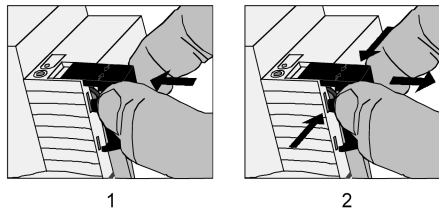

Figure 8: Installing / removing the protective cap.
- To install the cap: slide the cap backwards until you feel it engage (figure 8).
- To remove the cap: Push the cap sideways slightly and pull off toward the front (figure 8).